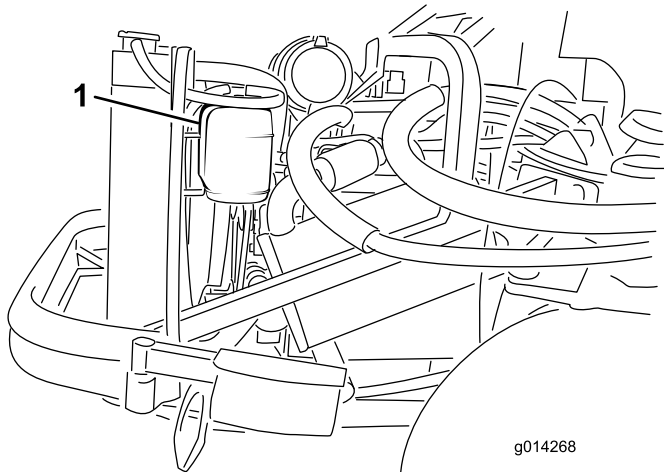

Figure 53
1. Check the level of the coolant in the expansion tank (Figure 53). The coolant level should be between the marks on the side of the tank.